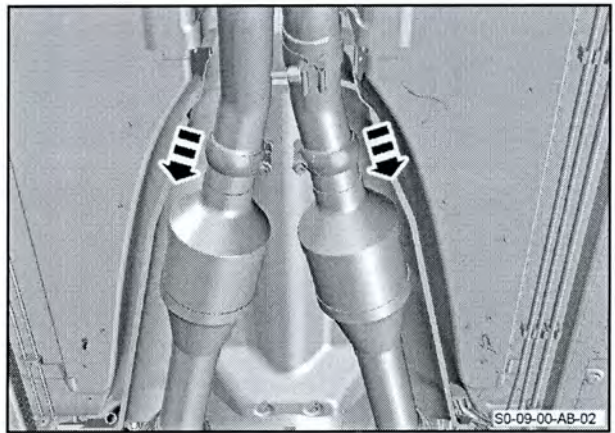

Figure 5
10. Move the two clamps on the catalytic converter and pipe assemblies away from the centre exhaust pipe (refer to Figure 5).